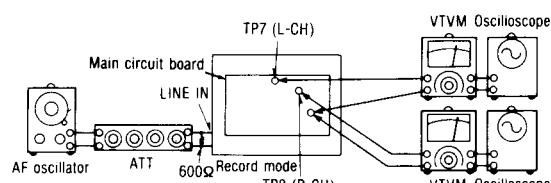

Fig. 23
- Make connections as shown (See fig. 23).